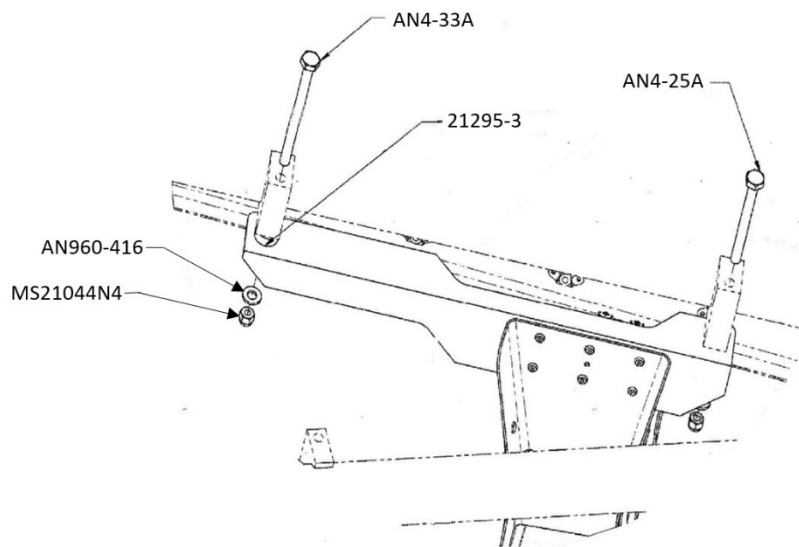

Figure 8-7
- F. Use engine mount weld lug thru holes to match drill (4) Cowl Support Angles 711020066-001, -002 using an .266" bit. Same four holes may be enlarged to .295" for optimal alignment.
- G. Install (2) AN4-25A AFT bolts and (2) AN4-33A FWD bolts. Assemble (4) 21295-3 spacers (one each side of FWD bolt and nut) as shown between weld lug and cowl support angle 711020066. Hand tighten all bolts using (4) AN960-416 washers and (4) MS21044N4 nuts. See Figures 8-7 & 8-8.